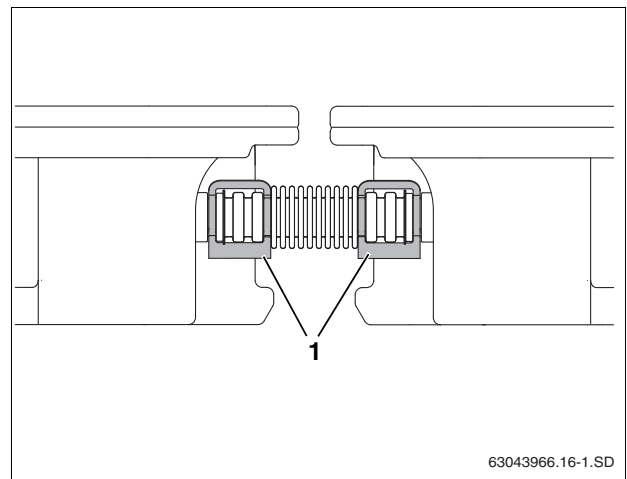

Fig. 44 Corrugated pipe connector secured with clips
- Verify each end cap is secured with one clip and each corrugated pipe connector with two clips (Fig. 44, [1]).